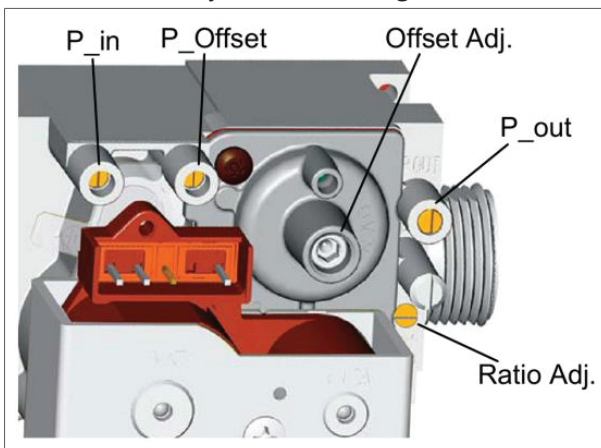

Figure 27 - Main parts of the gas valve
The gas valve is adjusted with two screws (figure 27):
**DANGER!** Always measure the air heater's CO production. Too much CO usually means the gas mixture is too rich. Adjust this if necessary with the two adjusters (figure 27). The concentration of CO should always be below 100 ppm.